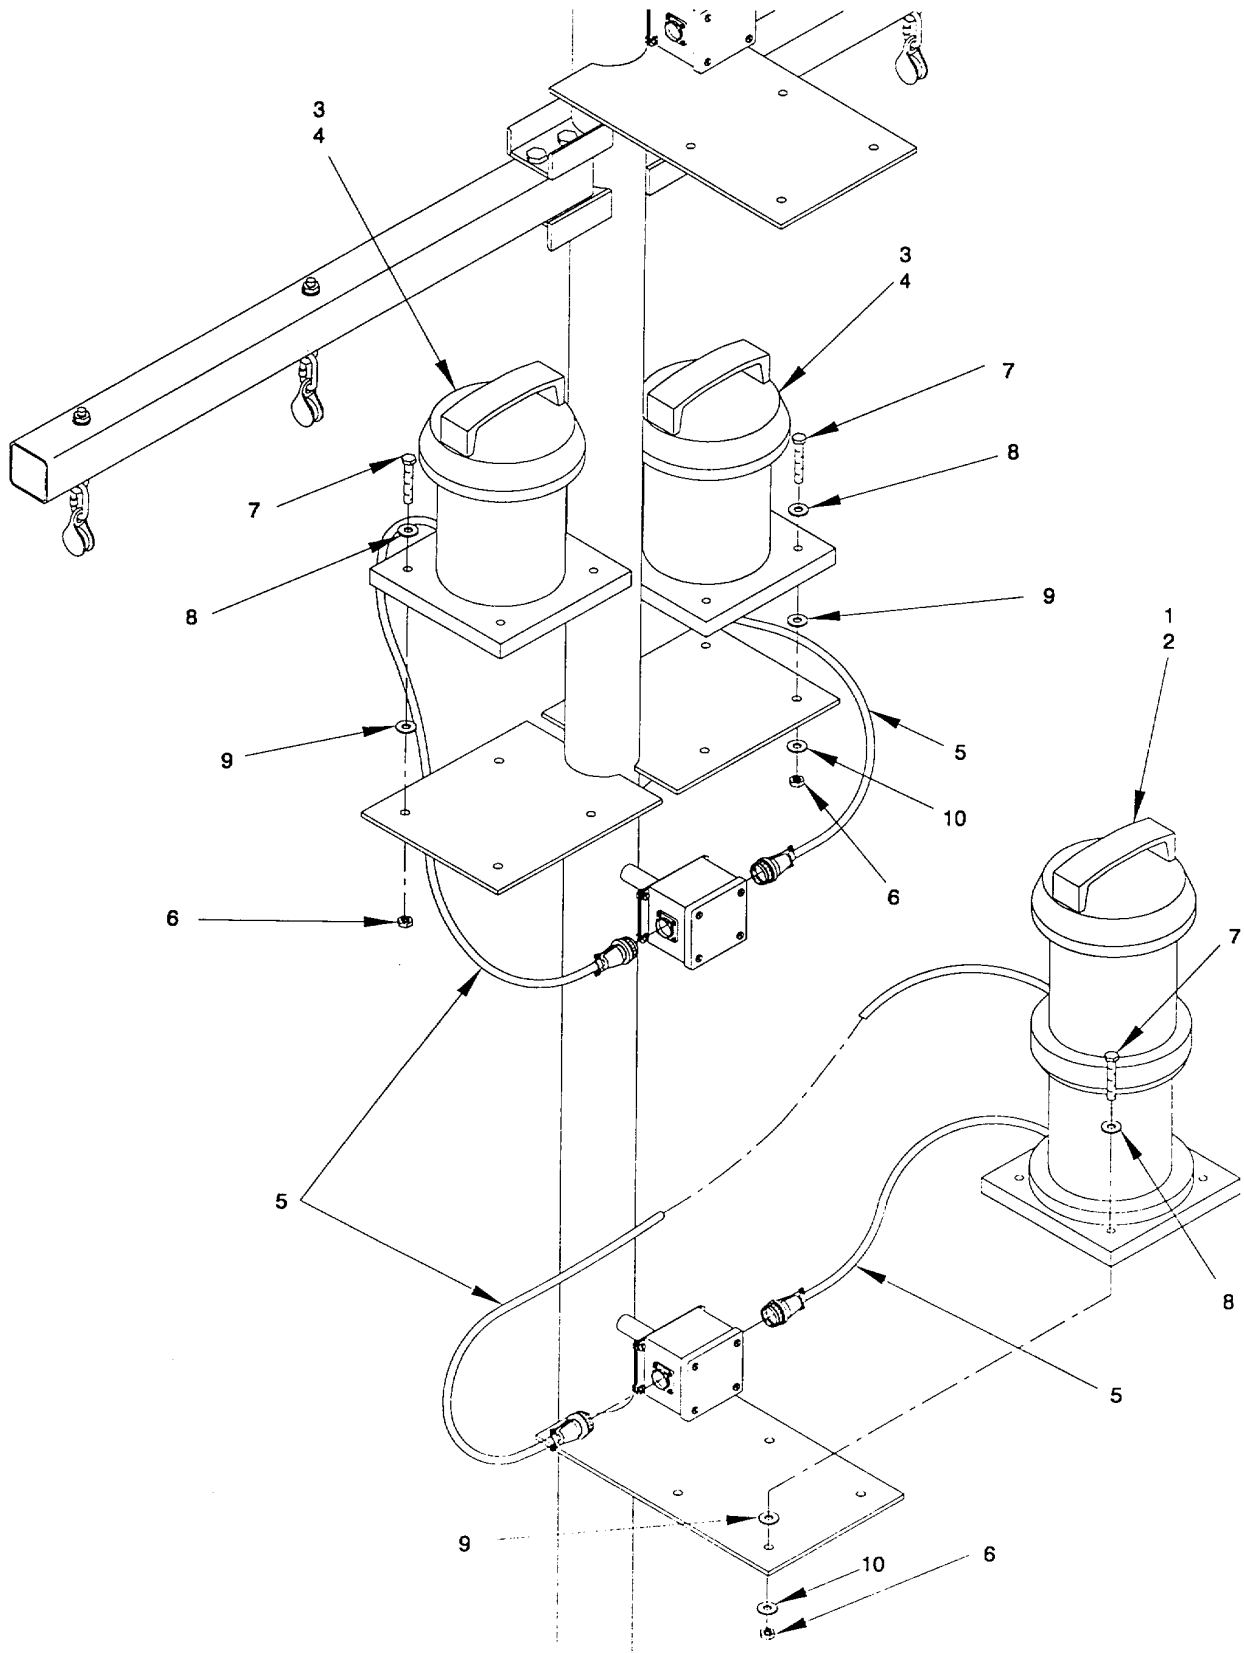
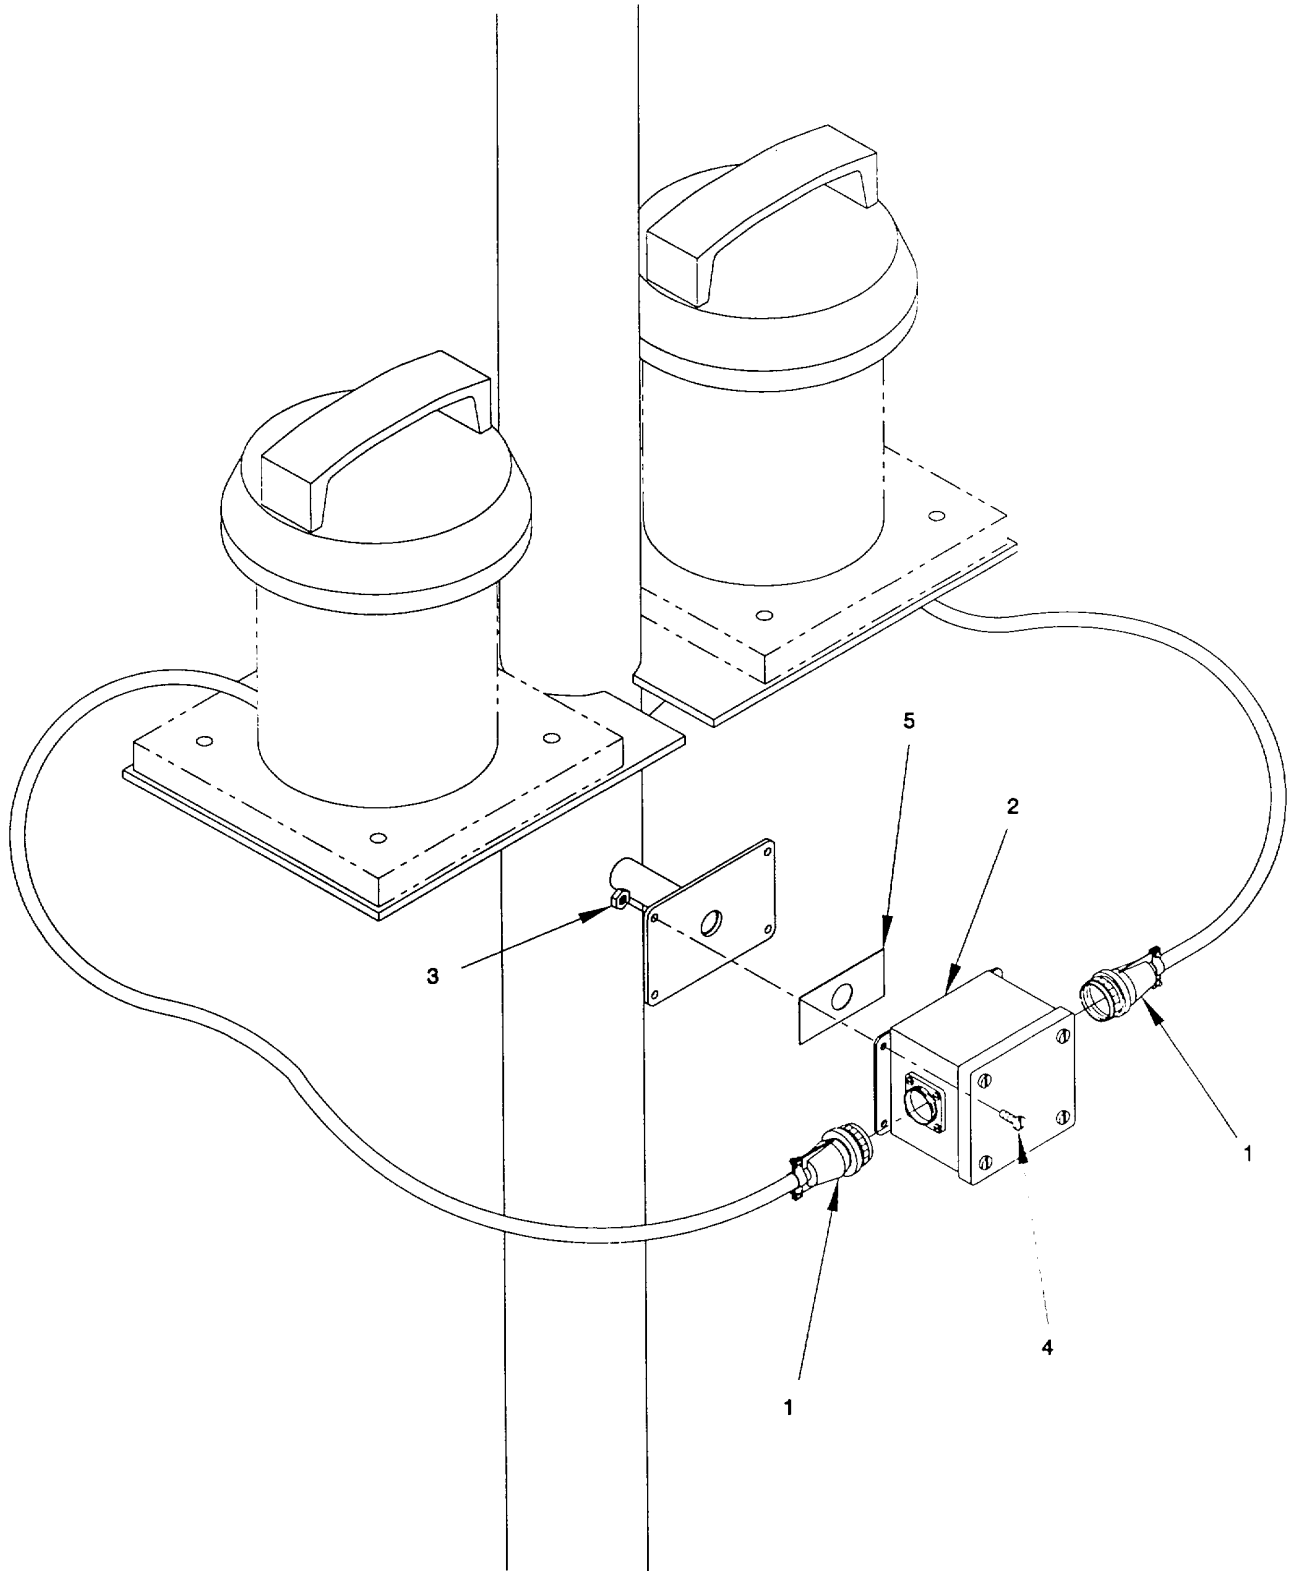

Figure 2-173. Navigation Lights, Remove/Install.
Figure 2-174. Junction Boxes Remove/Install.
- (2) Navigation Lights. (figure 2-173) '
- (a) Unscrew and disconnect the electric cable (5) for each light from its junction box.
- (b) Remove the four hex nuts (6), capscrews (7), flat washers (8), plastic washers (9) and lockwashers (10)
- (3) Junction Boxes. (figure 2-174)
- (c) Install clamps (9), capscrews (8), and round pipe (5).
- (d) Install the two hubs (7), male unions (1), conduit bodies (4), new cover gaskets (3), and covers (2)
- (a) Place gasket (5) between junction box (2) (with cover removed) and mast base. Install four pan head capscrews (4) through junction box and mast base. Secure with four hex nuts (3).
- (4) Navigation Lights. (figure 2-173)
- (a) Install and secure light into mast by putting the plastic washers (9) between the mast and the light base. Insert each capscrew (7) through flat washer (8), light base, plastic washer (9), lockwasher (10) and mast.
- (b) Tighten hex nuts (6) onto capscrews (7). Torque no more than 35 ft.-lbs.
- (c) Connect cable (5) to appropriate junction box and screw down connector.